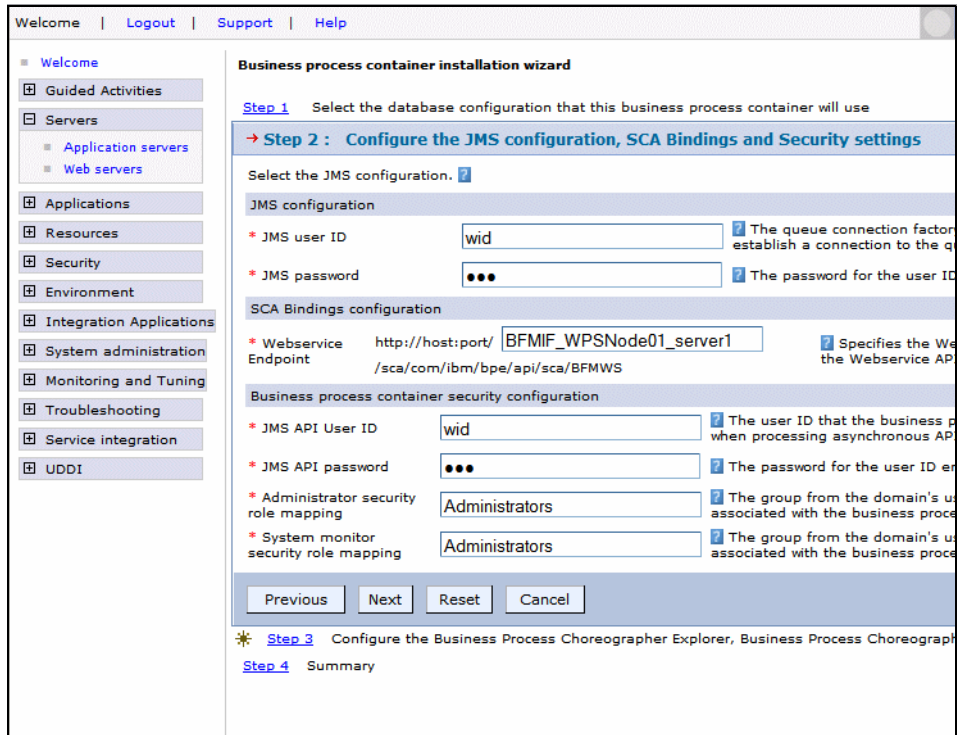

Figure A-29 Configuring the business process container: JMS Configuration
- For JDBC Provider, select *Cloudscape 5.1 (Cloudscape JDBC provider (XA))*. This action fills all the other fields. User ID and password are not required for Cloudscape. Click *Next*.
- ▶ Step 2: JMS configuration (Figure A-29):